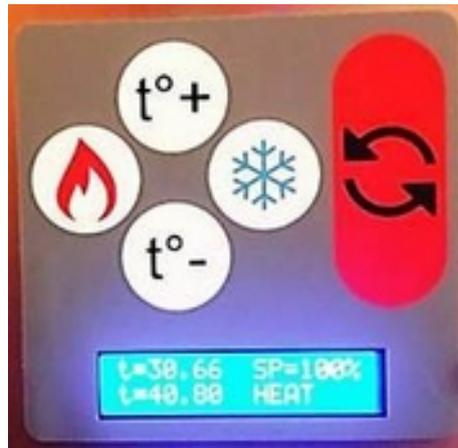

Fig.2
Keyboard control modes of the WTM is shown in Figure 2.
1. Press the warm up button  on the keyboard control modes of the WTM (Fig.2). By the knobs  and  set the maximum temperature of the heating of the chocolate mass. (the set temperature will remain after switching off).
The display on the bottom line shows the highest heating temperature, and the inscription “HEAT” lights up on the right (Fig.2).